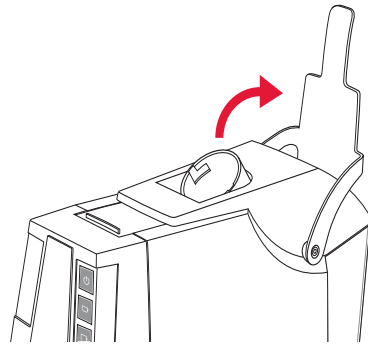

Figure 3
4. Open the handle. See figure 3.
3. Lift the capsule holder out of the machine. See figure 3.